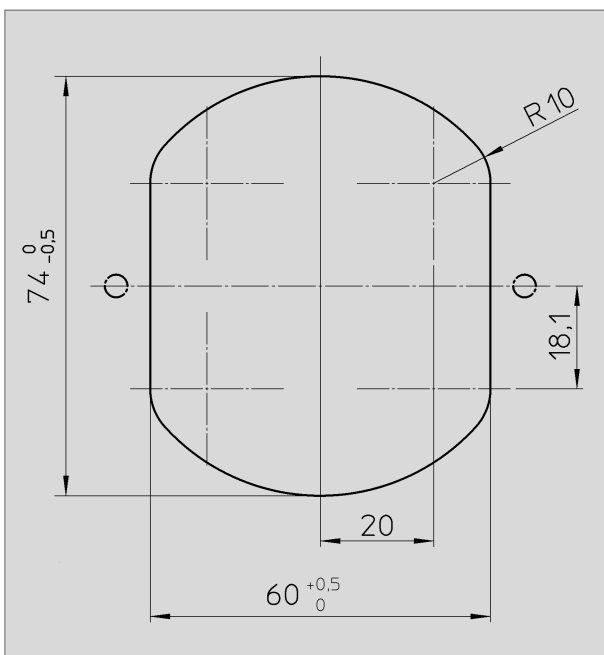

Fig. 13
Install the control and operator panel for the CT 4xxx toilet in an easily accessible position on the wall. First cut the aperture in the wall (Fig. 13). Use **true-to-scale template (4)** to make the wall aperture (see Item 5.3.2).